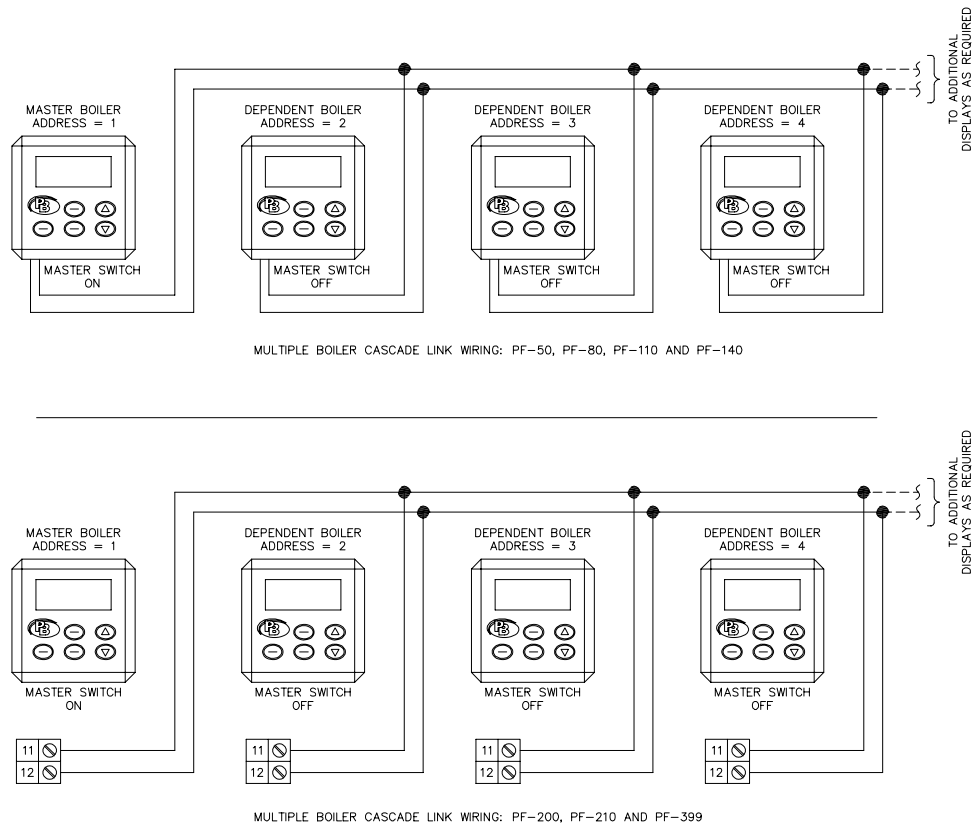

Figure 8.8: Interconnection of Cascade Link Wires
- All of these wires are to be connected to the Master Boiler as shown in Figure 8.8.